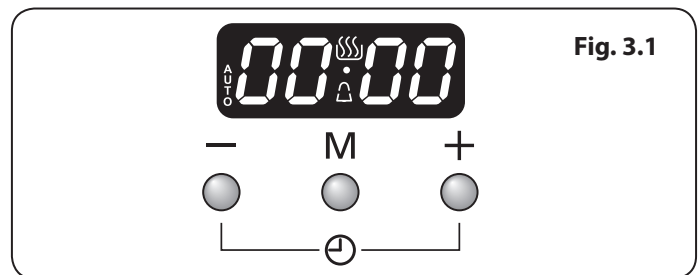

Fig. 3.1
1. The LCD clock is shown in (**Fig. 3.1**). Once the cooker is connected and switched on, the display flashes (00.00) and the time starts from (00.00).